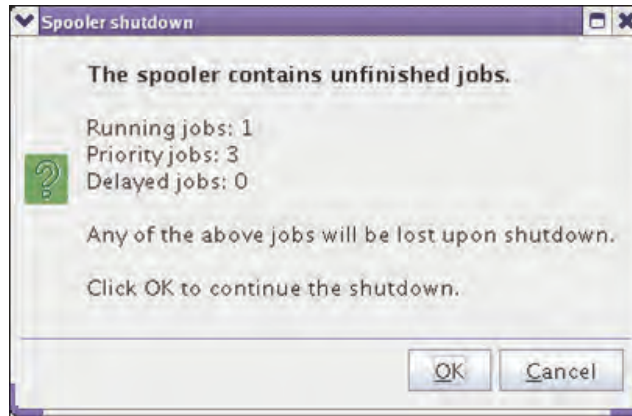

Figure 13.8
2.) If the spooler contains unfinished jobs (see Figure 13.8).